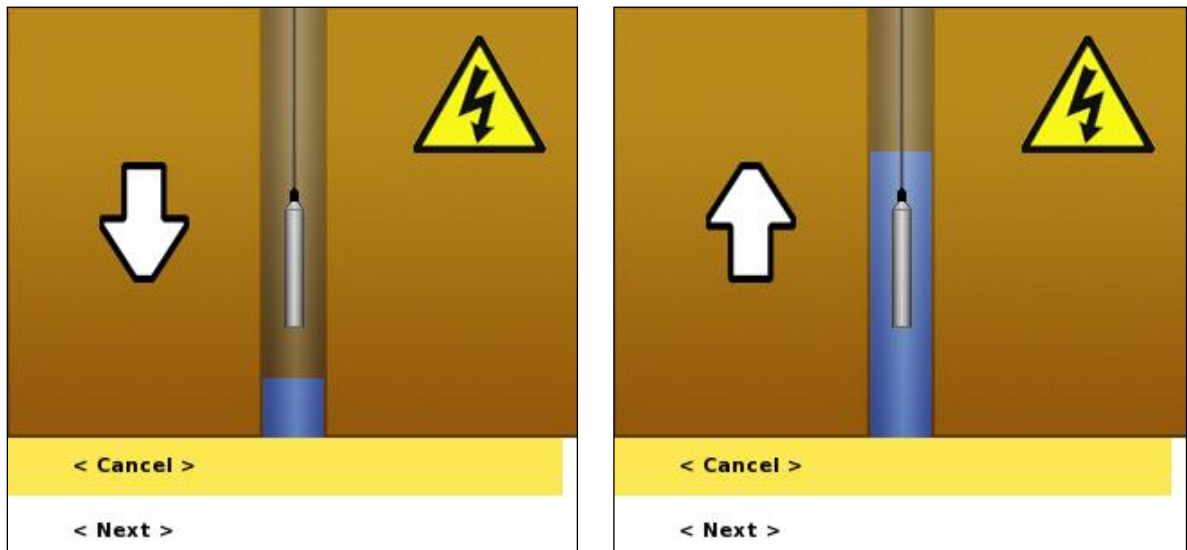

Figure 83 Level Indicator dialog
- A level indicator dialog is shown (Figure 83). The picture on the dialog will change automatically depending on if water is detected or not, respectively showing that the probe should be lowered or raised to more accurately find the water level.